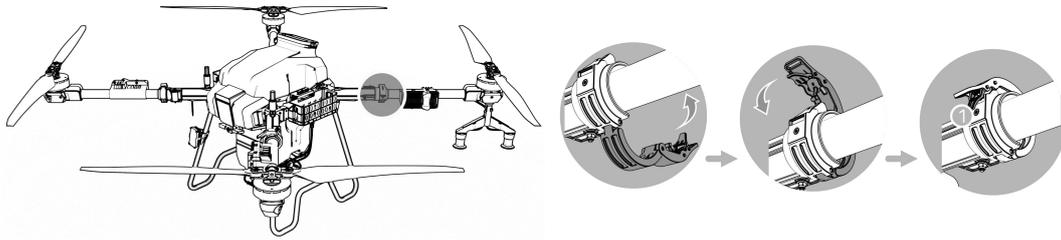

Figure 1-34 Arm Clamp
Step4: Make sure the clamping component is tightened, as shown in Figure 1-34.